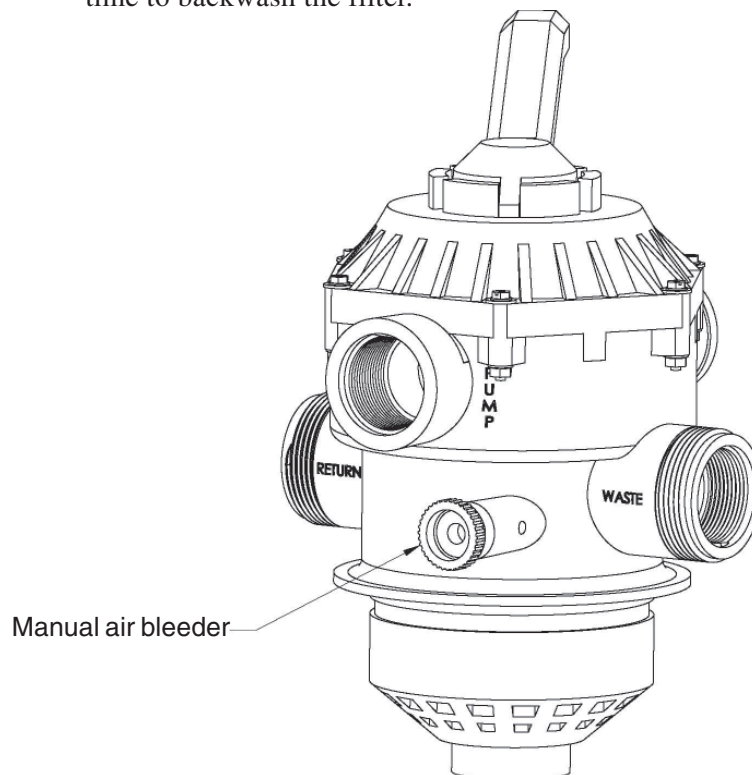

Figure 3.
4. Open the manual air bleeder. (See Figure 3 for air bleeder location). **STAND CLEAR OF THE FILTER.** Prime and start the pump according to the pump instructions allowing the filter tank to fill with water. Close the air bleeder on the filter when a steady stream of water emerges.